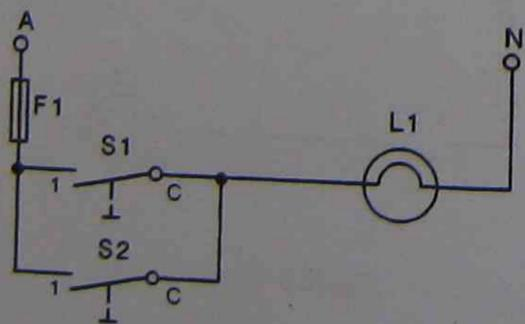
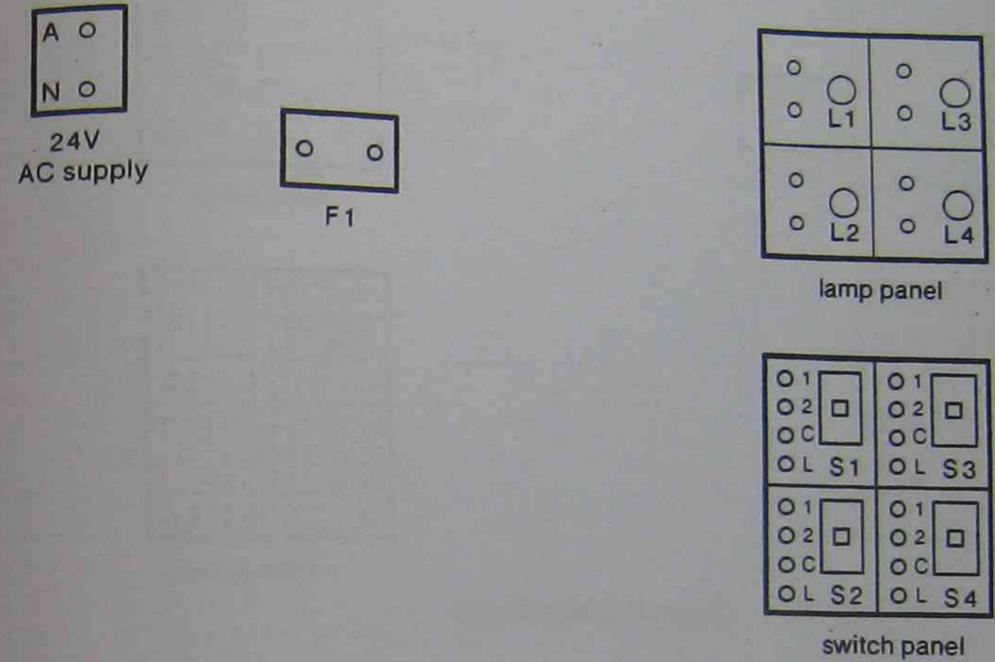

Figure 10 Circuit diagram
Figure 11 Wiring diagram
6. For the circuit diagram shown in Figure 10 neatly sketch on the layout of Figure 11 the wiring diagram for the circuit.